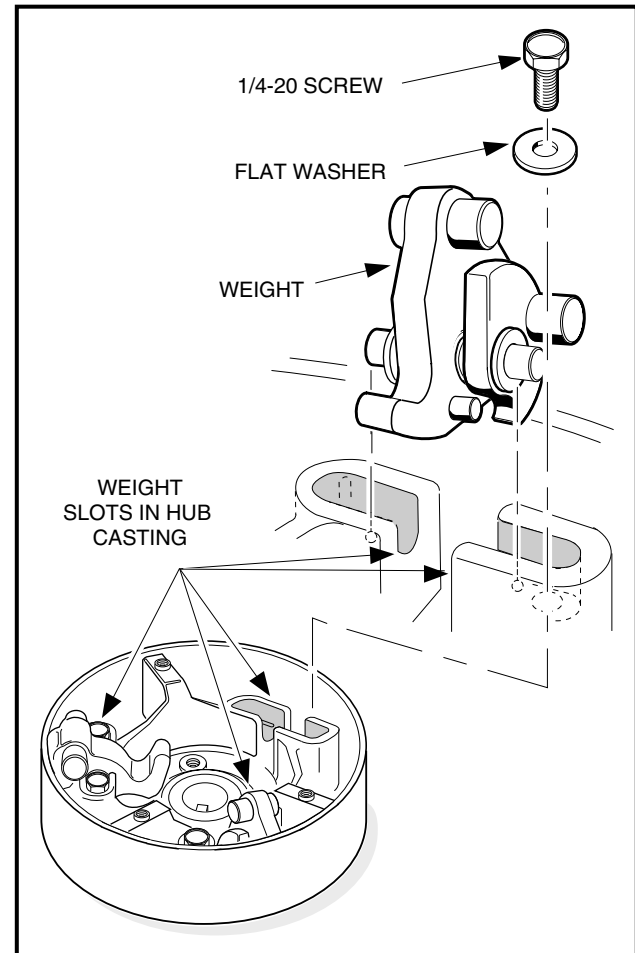
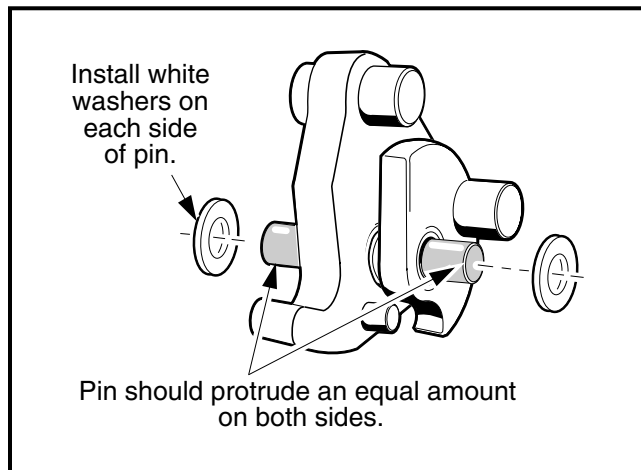

Figure 17-9 Weight Position
Figure 17-14 Install White Washers
- 5.1. Remove the screws and flat washers attaching the weights as shown (**Figure 17-9, Page 17-10**).
10. Install white plastic flat washers on each end of the mounting pin and push them against the outside surfaces of the weights. Center the weights and washers on the mounting pin (**Figure 17-14, Page 17-12**).
11. Install the weight assemblies into the slots in the hub casting (**Figure 17-9, Page 17-10**). Make sure the mounting pin protrudes an equal amount on each side of the weights when the assemblies are in position (**Figure 17-14, Page 17-12**).
16. Install a no. 10-24 button retaining screw with flat washer through each button and into the rib. Tighten the screws to 34 in-lb (3.8 N·m) (**Figure 17-9, Page 17-10**).